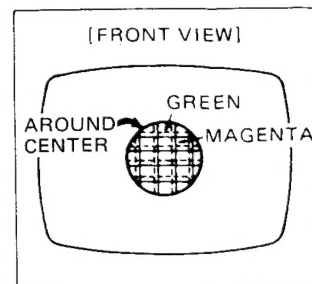

Fig. 5-8
4. Rotate the rear pair of tabs as a unit to minimize the separation of the magenta (R/B) and green lines. (Fig. 5-8)